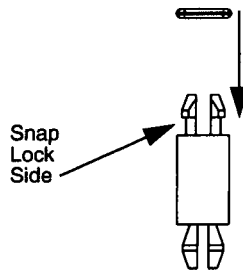

Figure 1-11.
4. Locate and insert the black O-rings onto the snap lock side of the support posts. (Refer to Figure 1-11.)